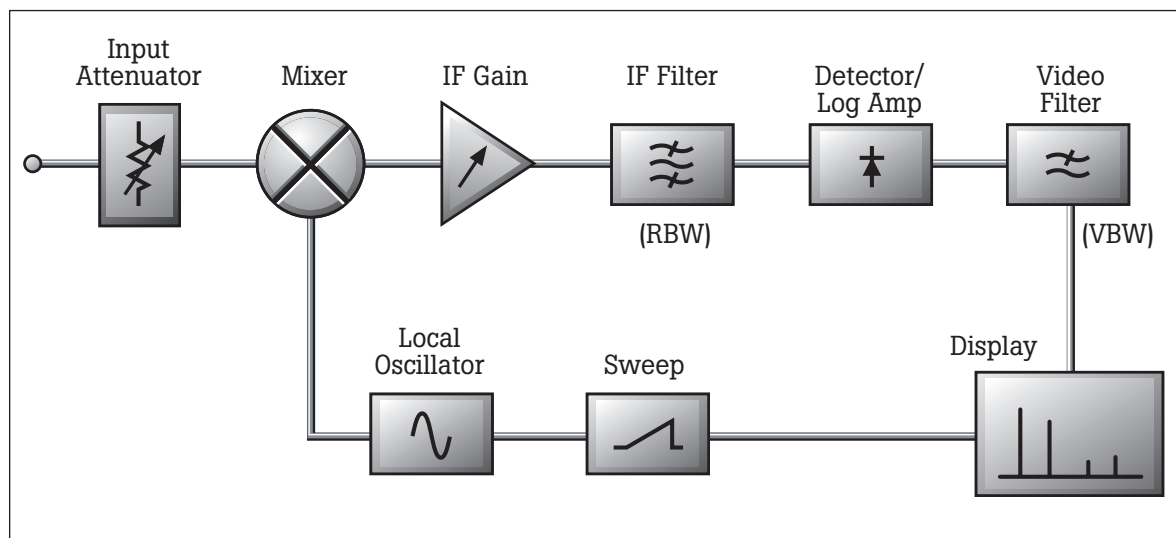

Figure 1. Architecture of a typical swept-tuned, superheterodyne spectrum analyzer.
Figure 1 shows the key components that make up a typical swept tuned, superheterodyne spectrum analyzer. Its architecture resembles that of an AM superheterodyne receiver, in which a mixer is used to down-convert the input signal to a lower, intermediate frequency (IF) for processing. Most spectrum analyzers use two or three stages of down-conversion, but a single conversion is shown here for simplicity.